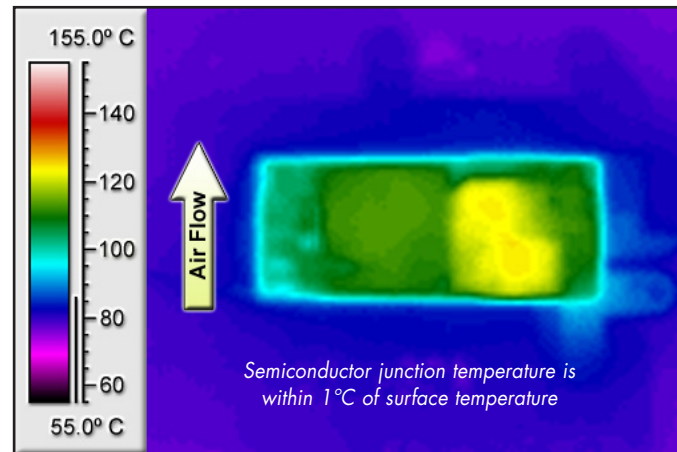

Figure 4: Thermal plot of 0.75Vo, 1.2Vo converters at nominal Vin and 16 amp load current mounted on a 85°C, 6-Layer, 2 oz. copper board (typical installation).
- If operation near derating limits is even suspected, thermal performance should be verified with the unit mounted in its intended manner and powered in circuit with all neighboring circuitry active. Attach a thermocouple to the converter's hotspot as shown in Figures 4, 6, and 8 in the Performance Curves section.